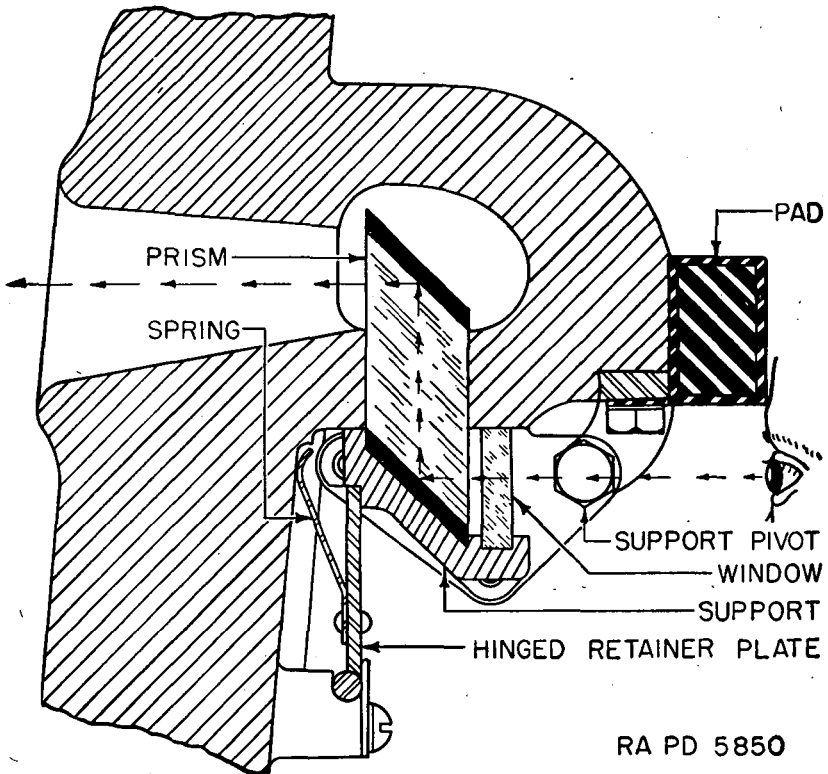

FIGURE 91.—Pistol port door protectoscope.
c. *Replacement of turret components.*—(1) *Protectoscope.*—The protectoscope mounted in the pistol port door protects the eye of the user (fig. 91). The two optical parts consist of a prism and